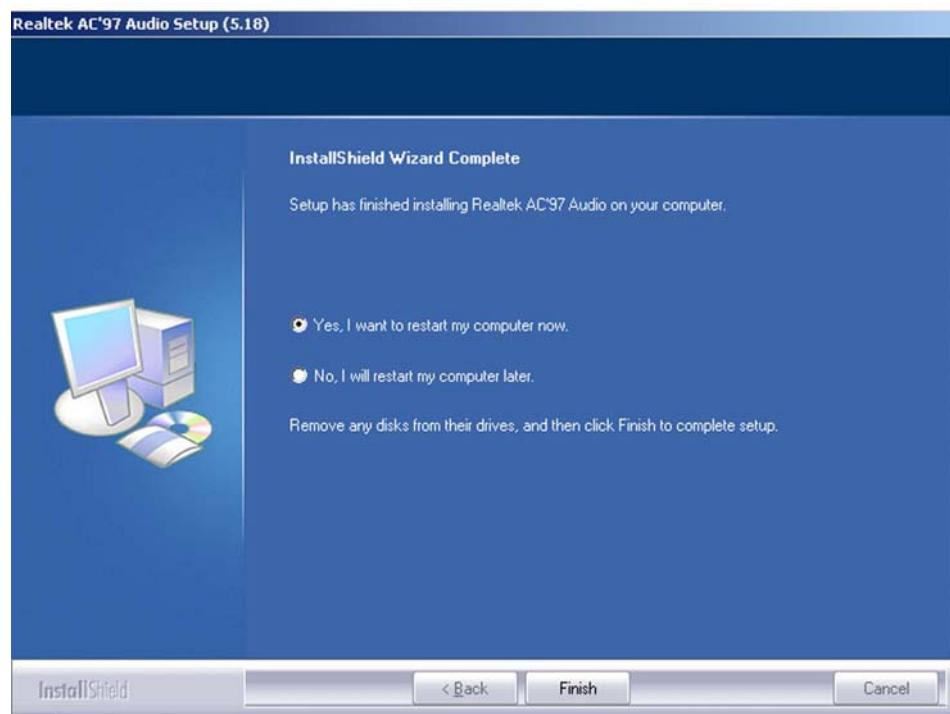

Figure 7-13: Audio Driver Installation Complete
Step 12: When the installation is complete, choose when to restart the computer, now or later. (See **Figure 7-13**)